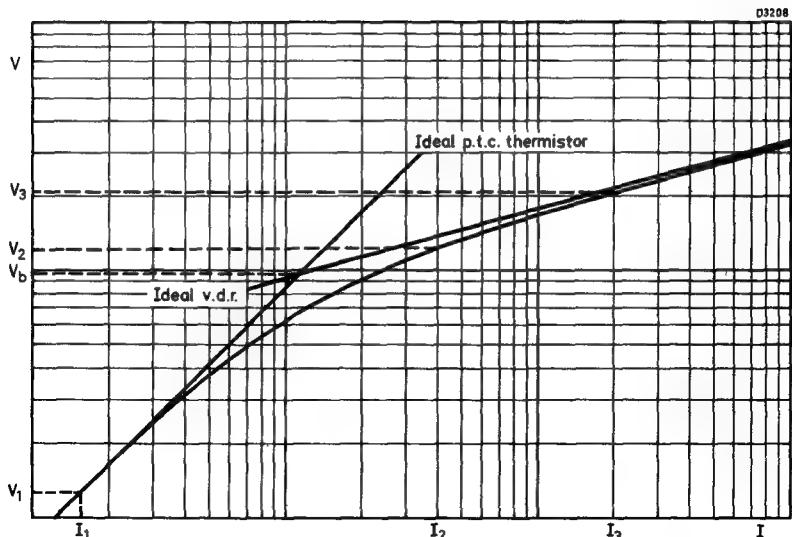

Fig. 10
P.T.C. thermistors exhibit a certain degree of voltage dependency at higher voltages. The equivalent circuit of a normal p.t.c. thermistor is an ideal p.t.c. thermistor having no voltage dependency, in parallel with an ideal voltage dependent resistor (v.d.r.) conforming to  $V \propto I^\beta$ . Figure 10 shows the voltage/current characteristic of a normal p.t.c. thermistor compared with these "ideal" components. These have been plotted on a log scale and the p.t.c. thermistor curves represent measurements made under pulse conditions.
**Balance voltage ( $V_b$ ).** The voltage at the intersection of the ideal p.t.c. thermistor and the ideal v.d.r. characteristic curves (see figure 10) is the balance voltage at which point the current through both ideal components is equal. Where applicable, balance voltage is given in data at a specified ambient temperature.